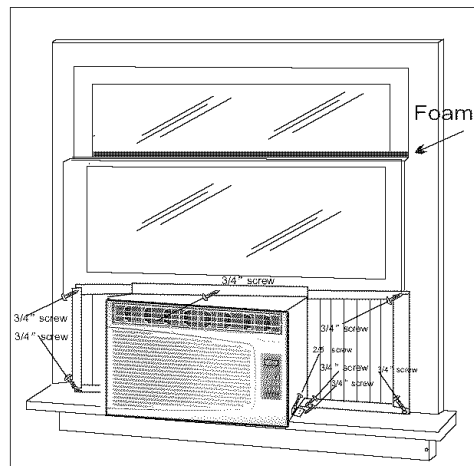

Fig. 6
6. Carefully lift the air conditioner and slide it into the open window. Make sure the bottom guide of the air conditioner drops into the notches of the L brackets. When the air conditioner drops into the L brackets, the air conditioner will be centered in window opening as show in Fig. 6.
First, fix both sides onto the window sill with two 3/4" screws and one 2/5" screw ( which is unscrewed from each side of the unit). Then fix top channel to widow sash with one 3/4" screw and fix side curtain frames with four 3/4" screws as shown in Fig.6.